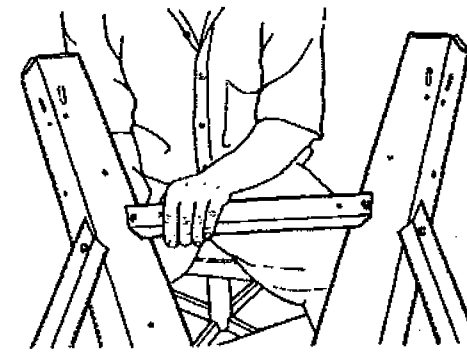

Fig. 15
21. Attach a brace between two remaining unbraced legs by using the brace's outer two holes, as shown in Fig. 15. Finger tighten.